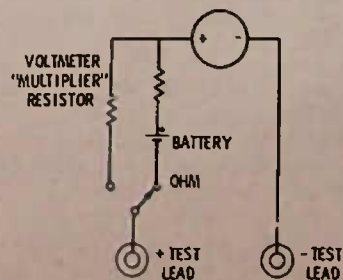

Fig. A-8.
18. C. Most of the time in present-day meter circuits the lead is actually connected to the negative side of the ohmmeter circuit. Fig. A-8 shows why this occurs. In order for the meter to read up-scale on ohms, the + side of the battery in the ohmmeter circuit must connect to the + side of the meter—this leaves the + test lead connected to the